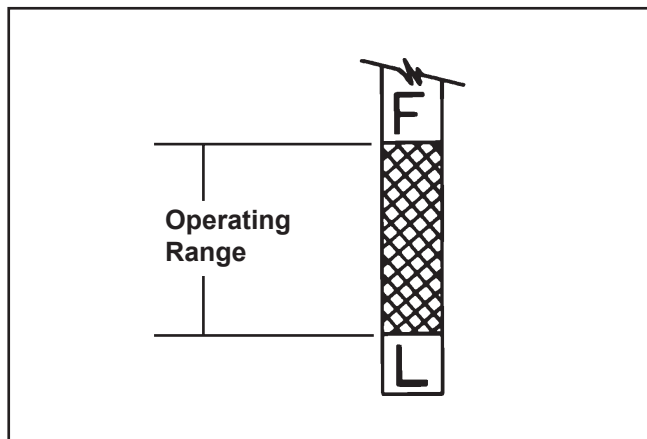

Figure 6-5. Oil Level Dipstick.
4. Remove the dipstick and check the oil level. The oil level should be up to, but not over the "F" mark on the dipstick. See Figure 6-5.
**NOTE:** Oil Sentry™ is not a substitute for checking the oil level **BEFORE EACH USE**. Make sure the oil level is maintained up to the "F" mark on the dipstick. See Figure 6-5.